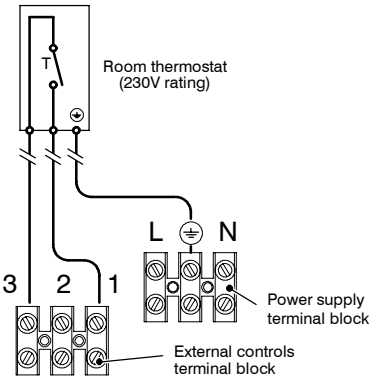
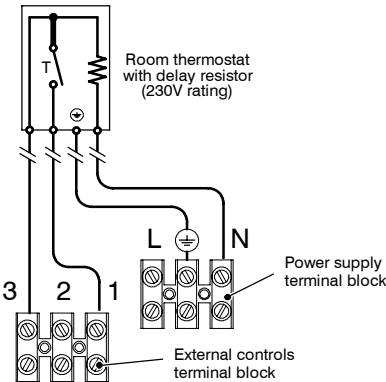

Fig. 6.18
Fig. 6.19
- 8 Connect the room thermostat between terminals 1 and 3 as shown in Fig. 6.18 or Fig. 6.19.